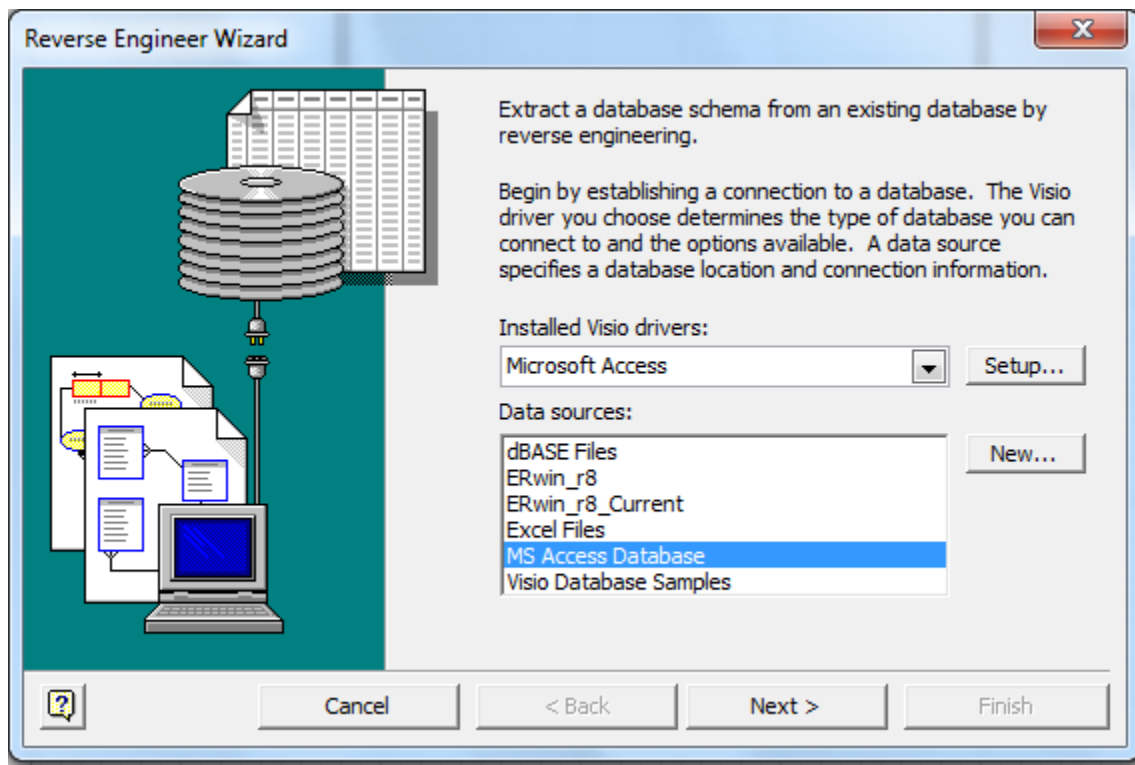

Figure 62: First Window of the Reverse Engineer Wizard
1. First Wizard Window: The first window (Figure 62) explains the reverse engineering process and allows you to select the database driver. Choose the settings as shown in Figure 62.